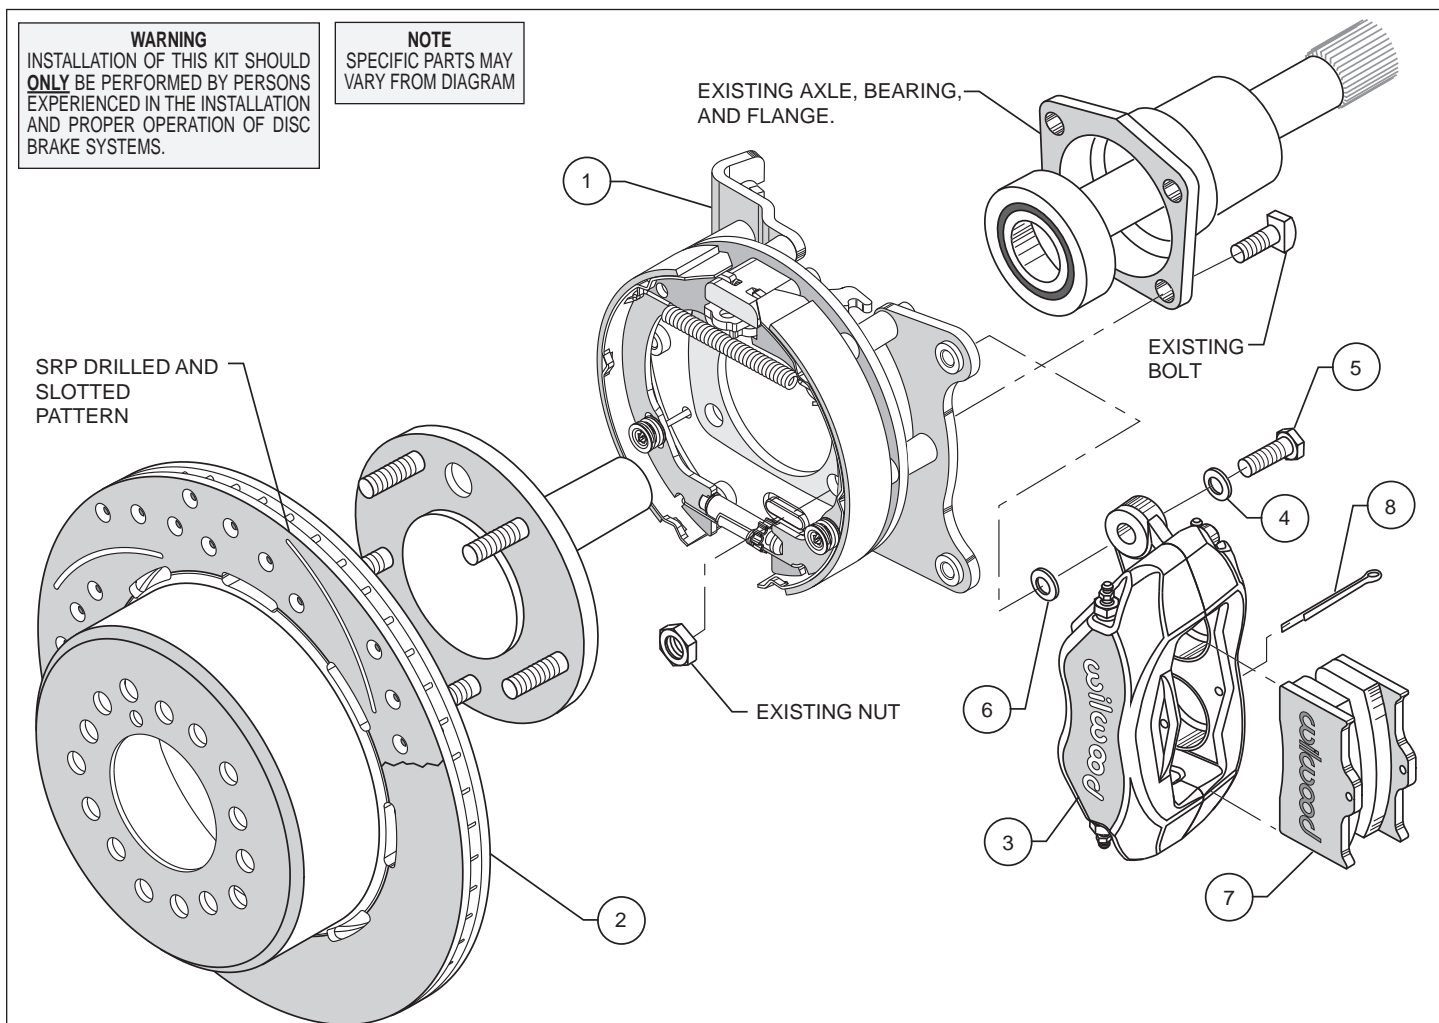

Figure 1. Typical Installation Configuration
**Assembly Instructions** (numbers in parenthesis refer to the part list, and Figure 1,-- on the preceding page): **CAUTION:** All mounting bolts must fully engage clinch nuts. Be sure to check that all bolts are either flush or protruding through flanged side of clinch nut after shimming, Figure 4.
- Orient the bracket assembly (1), as shown in Figure 1, and mount to the axle housing flange using the Original Equipment Manufacturer (OEM) bolts and nuts, Figure 1. Ensure that the bracket assembly backing plate fits flush against the axle housing flange. Apply red *Loctite*® 271 to the OEM bolt threads and torque to OEM specifications.
- **NOTE:** Please reference the caution statement at the beginning of the assembly instructions. Mount the caliper (3) onto the caliper mounting bracket (1) using bolts (5) and washers (4), as shown in Figure 1. Initially place one .035" thick shim (6) on each bolt between the caliper and the bracket, Photo 2. Temporarily tighten the mounting bolts and view the rotor (2) through the top opening of the caliper. The rotor should be centered in the caliper, Photo 3. If not, adjust by adding or subtracting shims between the bracket and the caliper. Always use the same amount of shims on each of the two mounting bolts. **NOTE:** The end of each bolt must be flush with or slightly protruding from the head of the clinch nut, as shown in Figure 4. If necessary place spare shims between washer (4) and caliper mounting ear to achieve the proper clinch nut engagement. Once the caliper alignment and clinch nut engagement are correct, remove the bolts one at a time, apply red *Loctite*® 271 to bolt threads, and torque to 40 ft-lb.